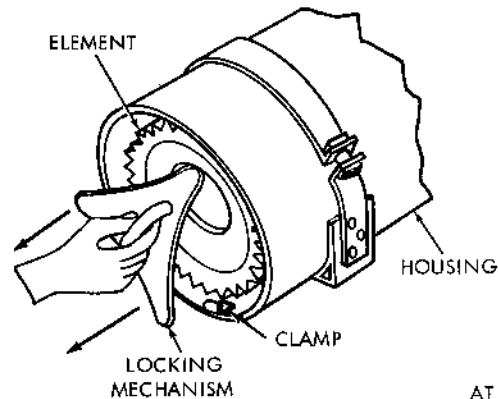

Figure 2-73. Removing air cleaner locking mechanism.
(b) Turn the locking mechanism counterclockwise until the mechanism disengages from the clamps. Pull the locking mechanism out (fig. 2-73).
(6) Push the air cleaner element into the housing. Position and turn the locking mechanism clockwise until the mechanism is secured in place by the clamps (fig. 2-73).
(7) Secure the cover to the air cleaner with the three latches.